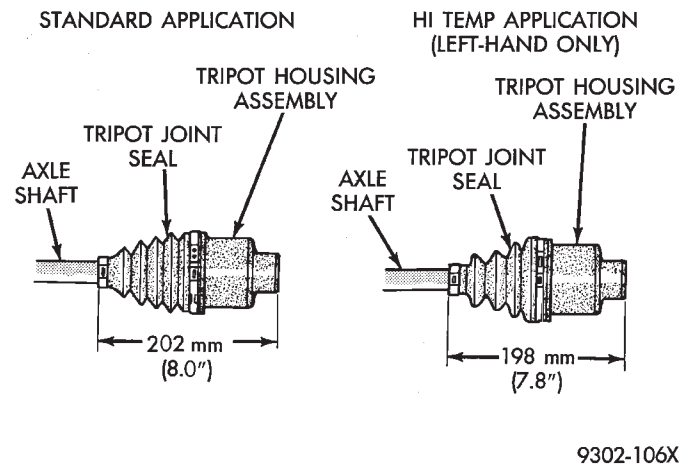

Fig. 32 Proper Inner Tripod Joint Stroke Position
(9) Before crimping sealing boot to tripod housing clamp, **the inner tripod joint must be at the correct stroke positioned (Fig. 32).** This procedure is required to ensure that the proper amount of air is